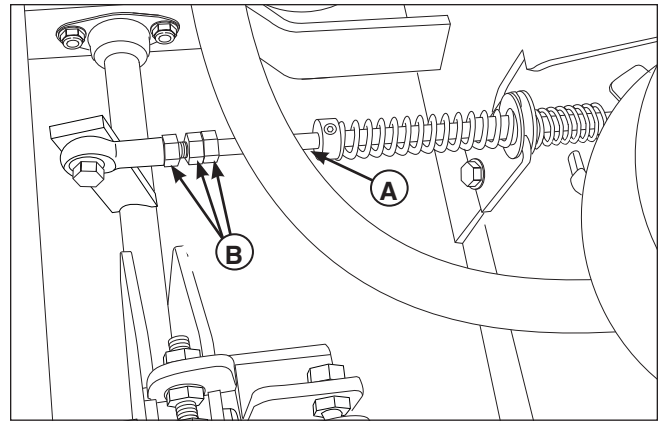

Figure 35. Neutral Adjustment (LH side shown)
2. There are three nuts (B, Figure 35) on the linkage rod (A). The first two are to be used together to turn the rod and the third (towards the front of the machine) is used to lock the rod in place. Loosen the jam nut that locks against the ball joint and turn the linkage rod to adjust. If the machine creeps forward, turn the rod CLOCKWISE (while standing at the rear of the machine, facing forward), if the machine creeps backward, turn the rod COUNTER-CLOCKWISE.
3. Lock the jam nut (B) against the ball joint when neutral is achieved.